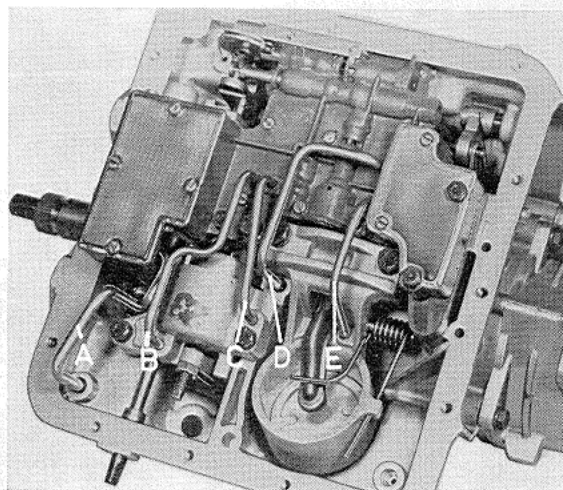

Fig. 38. Oil tubes
3. Unscrew the bolts for the oil pan and remove this. Lever out the oil tubes carefully as shown in Fig. 38.